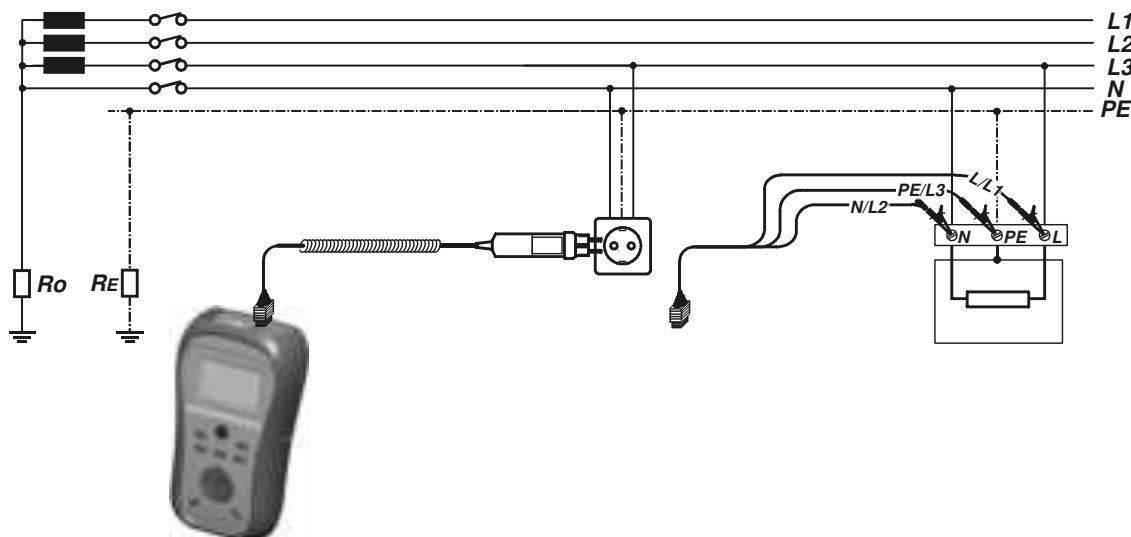

Figure 5.24: Connection of plug cable and universal test cable
- ❑ **Connect** test leads to the item to be tested (see figure 5.24 and 5.17).